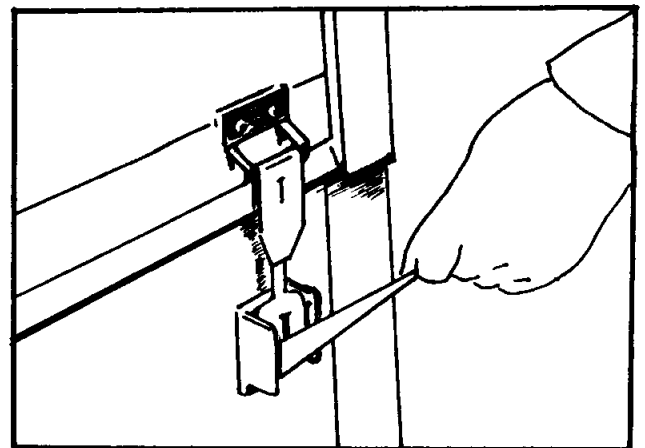

FIGURE 3
8. Release the four "top" latches. See Figure 3.